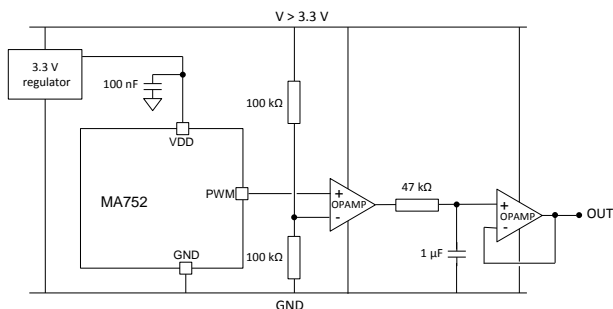

Figure 17: Typical Circuit for Replacement of an Analog Potentiometer
Figure 17 shows an example of a circuit with a ratio-metric output in a range larger than 3.3V, between 10% and 90% of the circuit supply voltage (V). V must be sufficiently more than 3.3V to supply the MagAlpha correctly via the linear regulator.